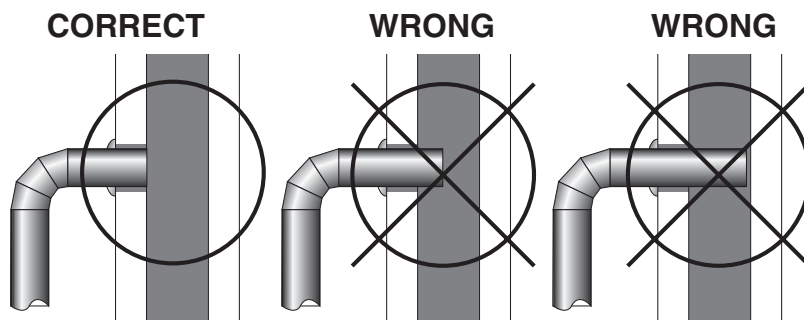

Fig. 4 – Stovepipe/Flue Connections
4. The pipe cannot extend into the chimney flue (figure 4).
5. Secure pipe/elbow sections with three (3) sheet metal screws at each joint to make the piping rigid.
6. It is recommended that no more than two (2) 90° bends be used in the stovepipe installation. The use of more than two 90° bends may decrease the amount of draw and possibly cause
2. Install a metal or fire clay (5/8” minimum thickness) thimble. Make sure the thimble is flush with the inner surface of the chimney liner and does not protrude into the flue (see figure 4 on page 6).
4. Install the stovepipe into the thimble as far as possible without extending past the flue lining (see figures 4 & 6 on pages 6 & 7).